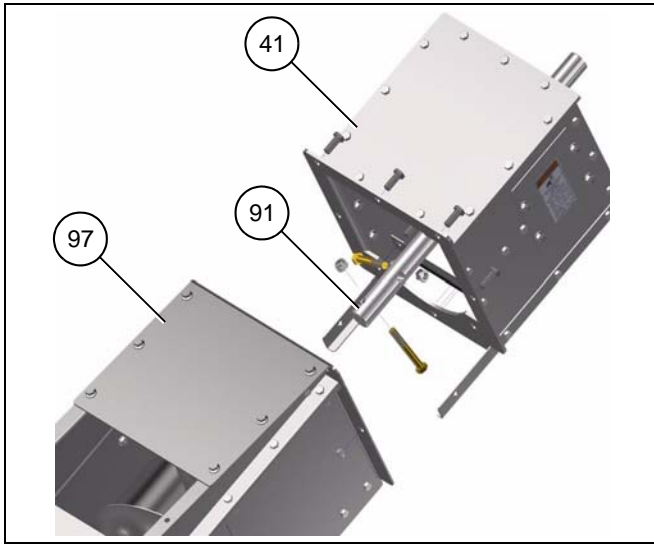

Figure 4BE
5. Bolt the powerhead (41) onto the end of the incline elbow assembly (97) with the eight bolts removed previously. Ensure the discharge gate seal (95) is re-installed during this step. Insert the powerhead shaft (91) into the incline flight bushing and secure it with two 3-1/2" bolts. (See Figure 4BE and Figure 4BF.)